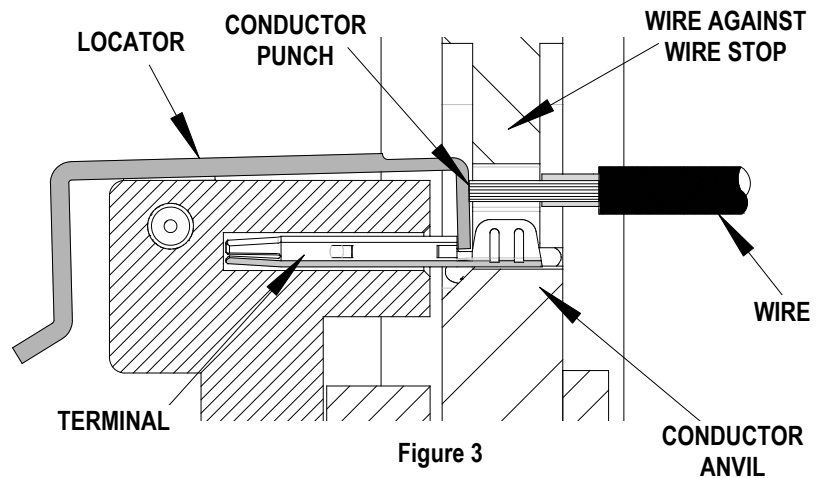

Figure 3
6. Push the wire until it stops. See Figure 3.